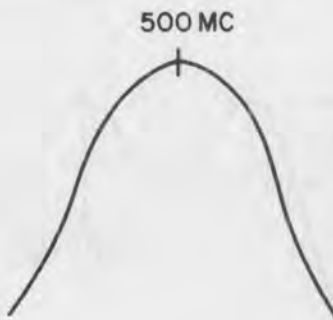

Figure 4-9. Typical Response Curve, Tuner Alignment
- (2) Set the receiver tuning dial to 500 MC and the sweep generator to 500 mc.
- (3) Set the oscilloscope vertical sensitivity to 50 millivolts per centimeter.
- (4) Adjust the sweep generator sweep width and oscilloscope horizontal sensitivity until a response curve is displayed on the oscilloscope screen.
- (5) Remove the larger of the two bottom covers from the 235-500 mc tuner.
- (6) If V1 or any associated components are replaced, adjust C6 for maximum amplitude of a single-peak response. The response should be centered at exactly 500 mc. Typical response is shown in Figure 4-9.
- (7) If V2 or any associated components are replaced, adjust C13 and C17 for maximum amplitude of a single-peak response. The response should be centered at exactly 500 mc.
- (8) If V3 or any associated components are replaced, adjust C24 for a single-peak response. The response should be centered at exactly 500 mc.
- (9) Check the response at 250 mc and 350 mc. The response shape will vary slightly. The markers should be near the peak of the response curve.
- (10) Replace the bottom cover.